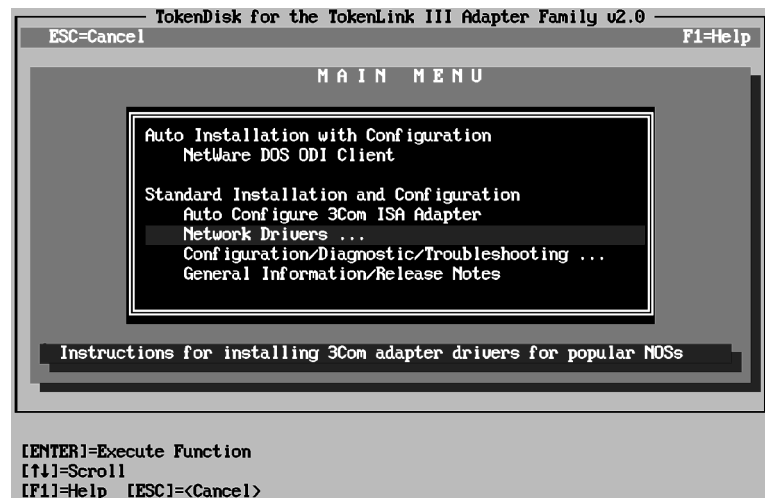

Figure 4-1. Main Menu
6. **When the main menu screen shown in Figure 4-1 appears, select Network Drivers and press [Enter].**